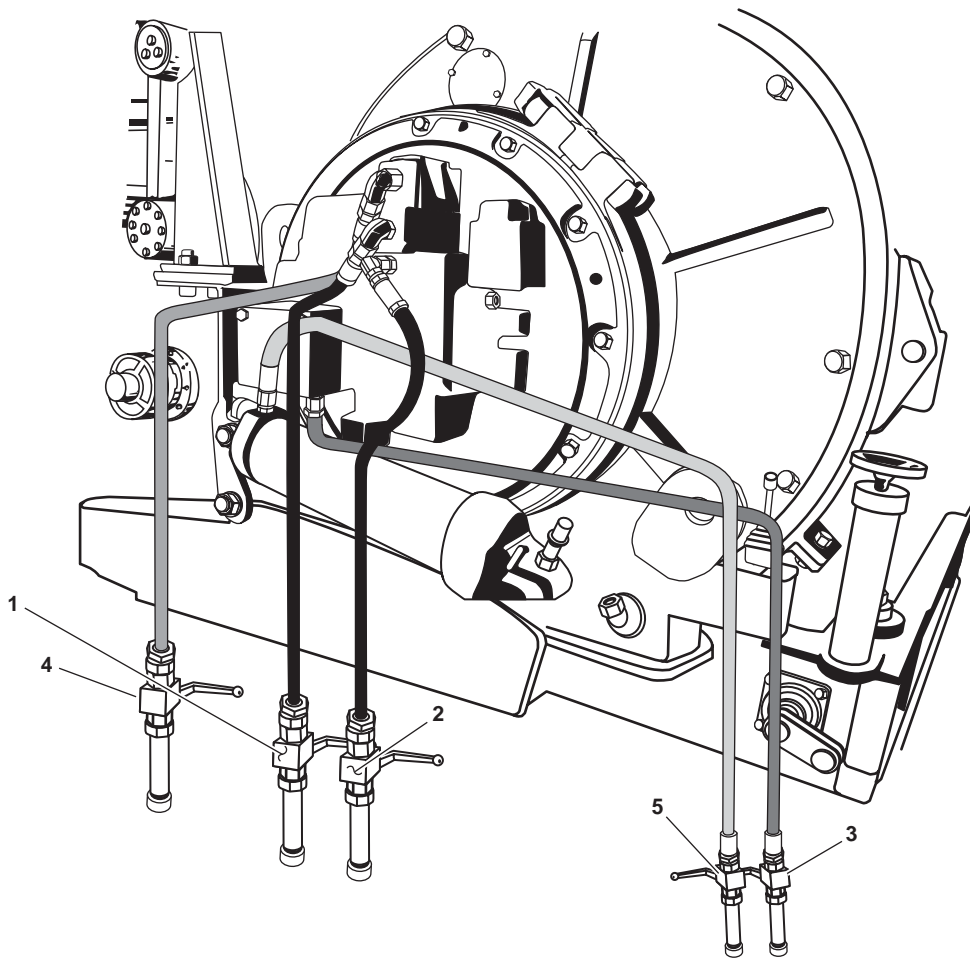

Figure 9. Port Towing Machine Isolation Valves
- a. TH-30, PORT TOW WINCH RETURN TO RSVR (figure 9, item 1)
- b. TH-32, PORT TOW WINCH PRESS TO DRUM (figure 9, item 2)
- c. TH-34, PORT TOW WINCH DR TO RSVR (figure 9, item 3)
- d. TH-36, PORT TOW WINCH DR TO RSVR (figure 9, item 4)
- e. TH-38, PORT TOW WINCH BRAKE DR RSVR (figure 9, item 5)